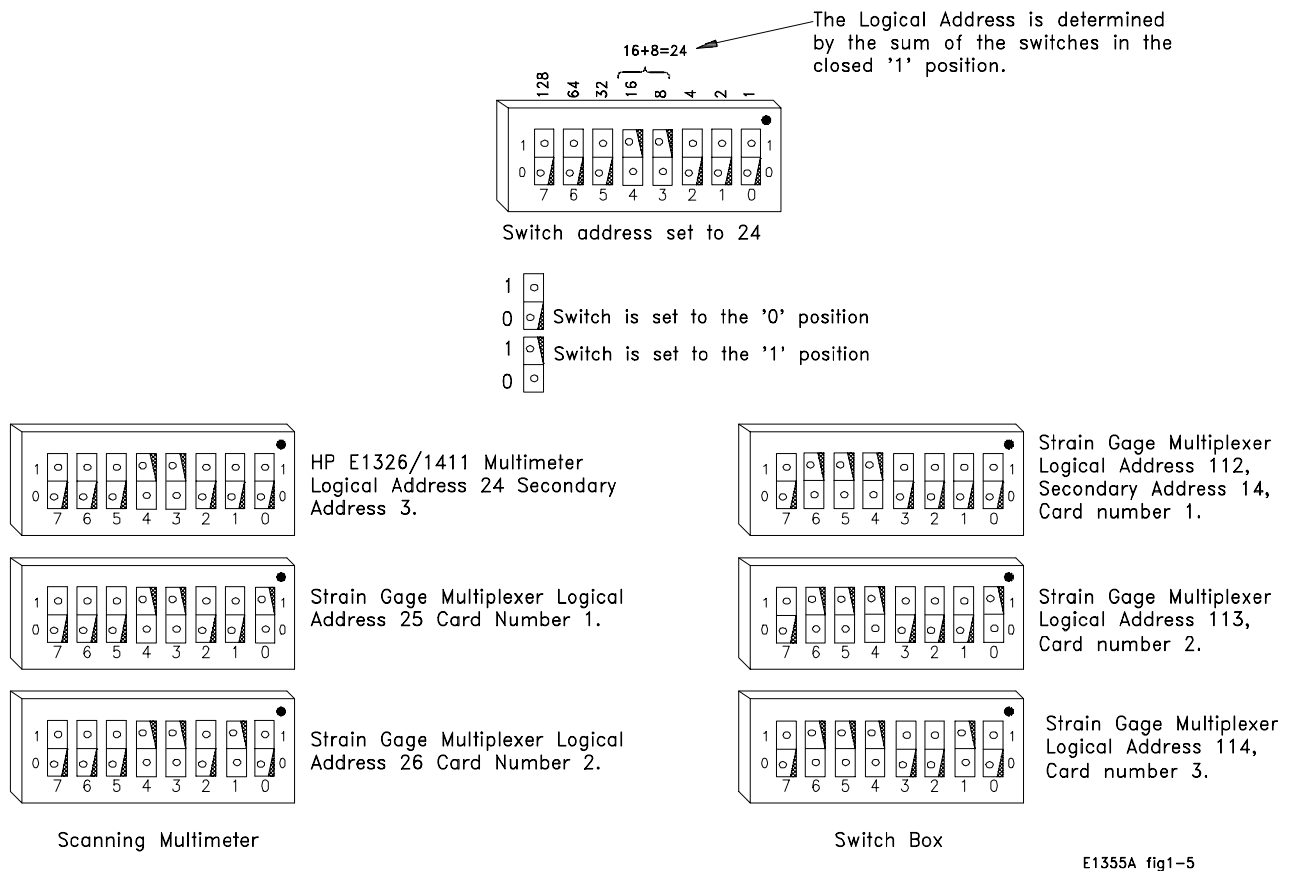

Figure 1-5. Creating a Scanning Multimeter and a Switchbox
- The strain gage multiplexers have a factory set logical address of 112. The logical address is changed using the logical address switches shown in Figure 1-5.
- All strain gage multiplexers have a factory set logical address of 112. The logical address is changed using the logical address switches shown in Figure 1-5.